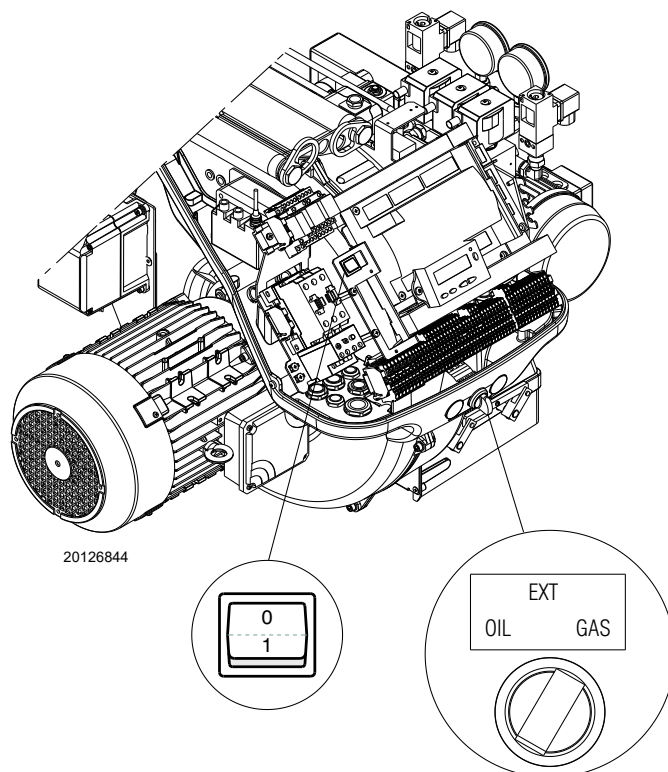

Fig. 43
- Close the thermostats/pressure switches and turn the switch of Fig. 43 to position “1”.
- Put the switch to the “OIL” (Fig. 43) position for light oil operation and “GAS” for gas operation.
- 1 with the “OIL-EXT-GAS” selector (Fig. 43);